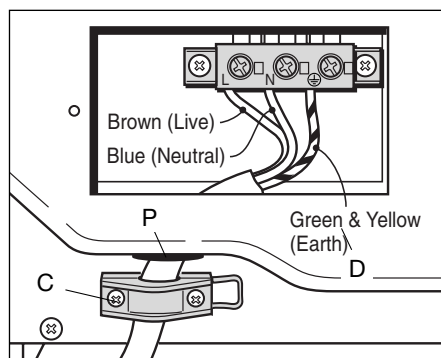

Figure 10
- Remove the screws C from the cable clamp (fig. 10).